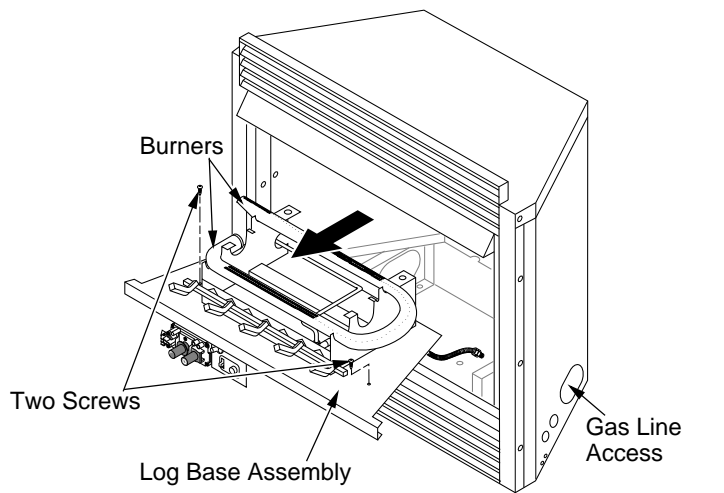

Figure 15 - Removing Log Base Assembly From Fireplace Insert
2. Remove screws that attach log base assembly to fireplace insert (see Figure 15). Carefully lift up log base assembly and remove from fireplace insert (see Figure 15).
3. Route gas supply line through access opening of fireplace insert (see Figure 15).